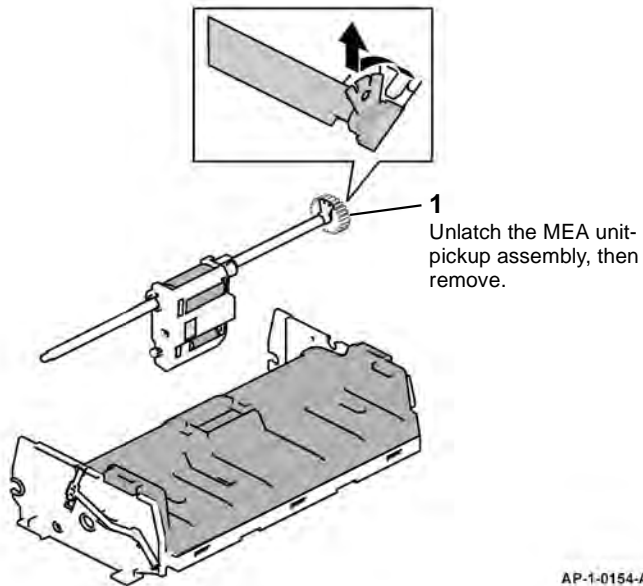

Figure 7 MEA unit-pickup assembly removal
8. Remove the MEA unit-pickup assembly, Figure 7.